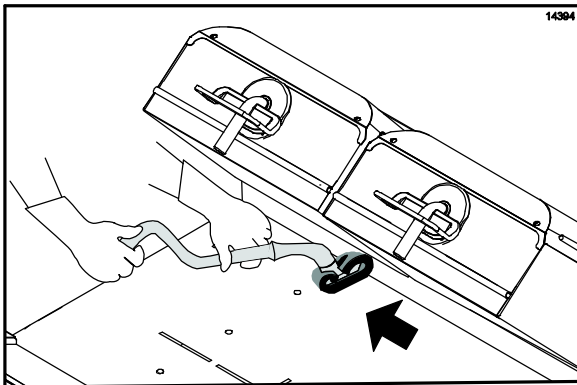

Figure 54
25. Scrub the back side of the platens from the right platen to the left platen. (See Figure 54.)